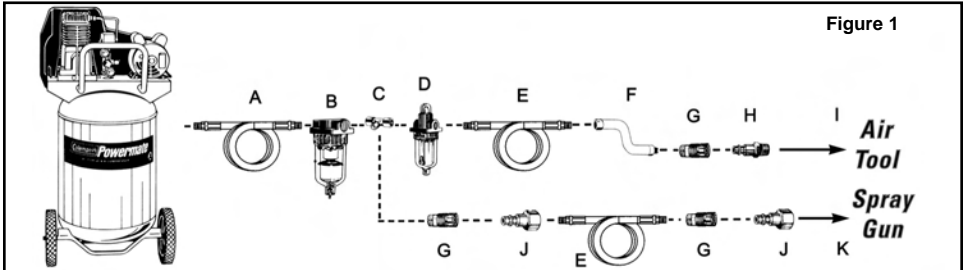

Figure 1
6. Connect the tool to the air hose quick coupler. **NOTE: It is recommended that a whip hose with a swivel (P012-0079SP - not included) be used to prevent twisting, kinking and excessive wear to the air hose (ref. item "F" in figure 1 for recommended connections).**
To maintain the maximum performance of the air tool, it must be lubricated each time it is used. Dust, dirt, rust and oil residue will build up inside the tool and reduce the performance. An in-line oiler is recommended for proper automatic tool lubrication (see Figure 1). If an in-line oiler is not available, the tool can be lubricated manually through the inlet port (see Figure 4).